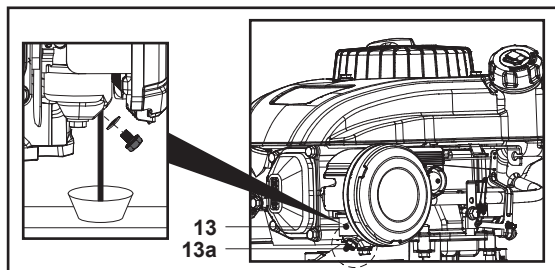

Fig. 28
3. Unscrew the fuel drain screw (13a) and let the fuel run into the container (Fig. 28).